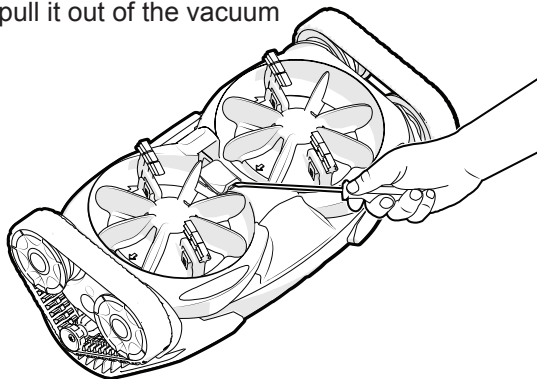

Figure 8. Remove Modular Inlet Adapter
1. Locate slot on underside of cleaner. Insert a flat tool into the inlet adapter (Figure 8).